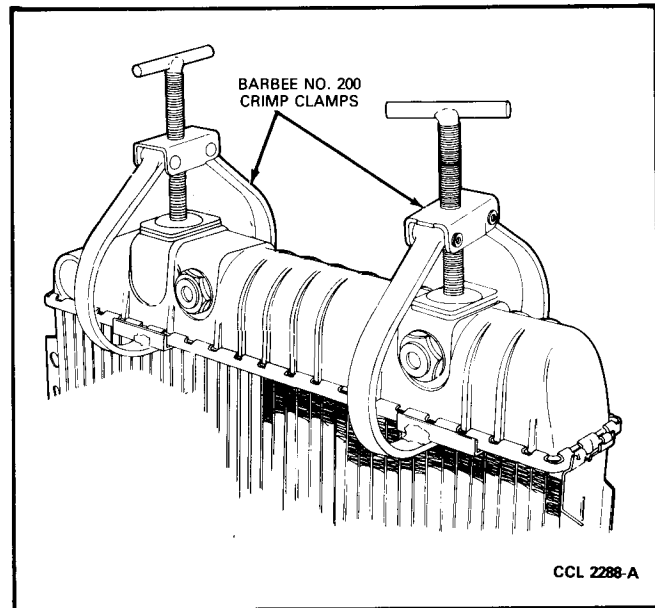

FIG. 12 Tank Clamped to Header for Crimping
6. Clamp the tank in position on the header with two header clamps as shown in Fig. 12. Tighten the header clamps to compress the O-ring gasket.
- Clamp the tank in position on the header with two header clamps as shown in Fig. 12. Tighten the header clamps to compress the O-ring gasket.